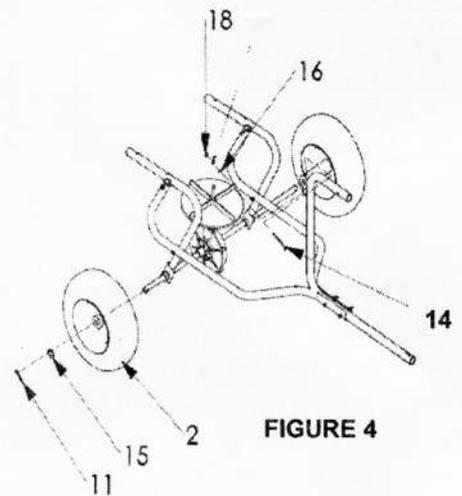

FIGURE 4
Slide a wheel (2) over left side of axle (10), followed by a large flat washer (15). Insert cotter pin (11). Place other wheel (2) on the right side of the axle (10) and secure using screw M6x50 (14), small flat washer (16) and hex nut (18). (Fig. 4.)